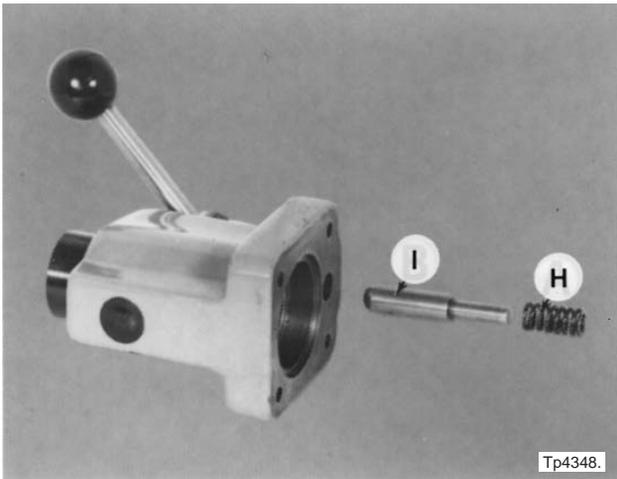
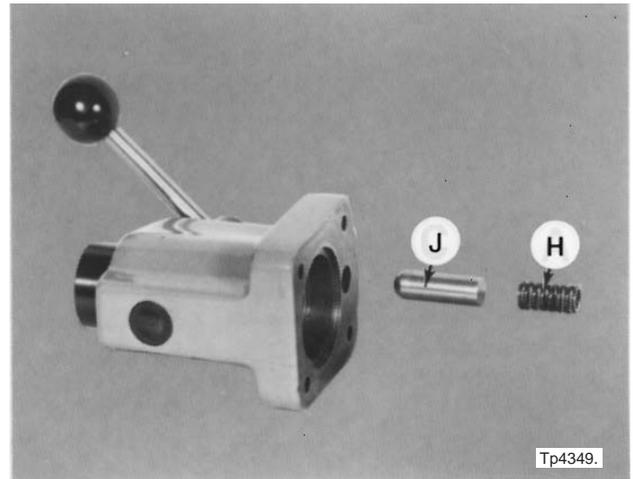

Figure 1.21 - Longitudinal Clutch Plunger and Spring
Figure 1.22 - Cross Feed Clutch Plunger and Spring
- a) Remove springs "H", Figures 1.21 and 1.22, from the clutch housings.
- d) Replace interlock plunger “I”, Figure 1.21, and plunger “J”, Figure 1.22, in the clutch housings.
- e) Replace springs “H”, Figures 1.21 and 1.22, in the clutch housings.
16. In the clutch housings, pack springs “H,~ Figures 1.21 and 1.22, with Shell Alvania® #3 grease.